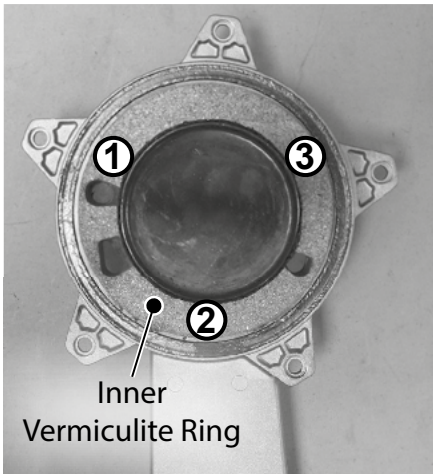

Figure 11 - Remove inner vermiculite ring
18 Locate the three (3) screws securing the inner vermiculite insulation ring to the burner door as shown in Figure 11. Use a Phillips screwdriver to remove screws. Place screws aside in a safe place for reinstallation.
28 Locate the new inner vermiculite insulation ring provided in the kit. Orient the ring as shown in Figure 11. The flat side should be facing the groove in burner door. Carefully slide it over burner and secure vermiculite to assembly with the three (3) screws previously removed in **Step 18**.